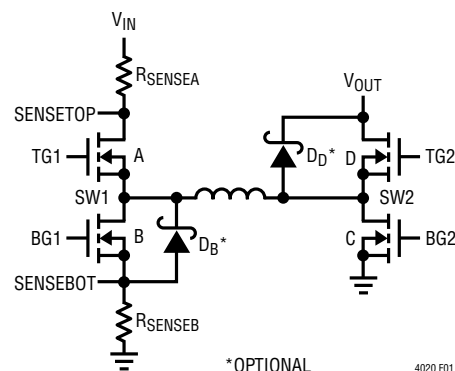

Figure 1. Converter Switch Diagram
As shown in Figure 1, when V_{IN} is higher than V_{OUT} during step-down (buck) operation, switches A (driven by pin TG1) and B (driven by pin BG1) perform the PWM required for accommodating power conversion. Ideally, switch D (driven by pin TG2) would conduct continuously and switch C (driven by pin BG2) would stay off, making PWM switching action much like that in a synchronous buck topology. Switch D uses a bootstrapped driver, however, so switch C conducts for a minimum on time of 150ns each cycle to refresh the driver and switch D is disabled to accommodate this refresh time. A 75ns non-overlap period, separates the conduction of the two switches, preventing shoot-through currents.
Figure 1 shows a simplified diagram of the four power switches and their connections to the IC, inductor, V_{IN} , V_{OUT} , ground, and current sense elements.
The LTC4020 performs inductor current sensing via two resistors connected in series with the V_{IN} side switches (see Figure 1). The high side sense resistor (R_{SENSEA}) is connected between V_{IN} and the drain of the top side switch FET (A). Both nodes on the sense resistor must be Kelvin connected to the IC via the pins SENSEVIN and SENSTOP. Likewise, the low side sense resistor (R_{SENSEB}) is connected between the source of the bottom side switch FET (B) and